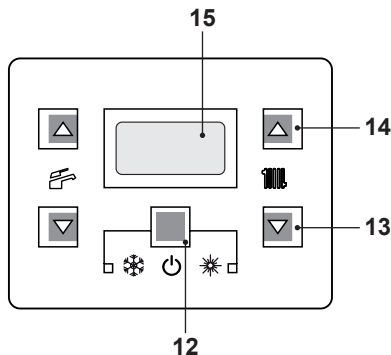

Fig. 8.31
- Enter the "programming mode" by sequentially pressing and holding in keys, 12 - 13 and then 14 (Fig. 8.31) for 10 seconds until the letters **Pr** that alternate with code **01** are displayed on the LCD display, indicating that "parameter 01" (Fig. 8.32) has been activated.
- Press keys 12 and 14 (Fig. 8.31) at the same time until the value of parameter 01 (73=**ADVANCE 25S** or 96=**ADVANCE 30S**) is displayed on the LCD display (Fig. 8.33).
- Press keys 12 and 13 (Fig. 8.31) at the same time to exit without changing the value (return to the parameters list Fig. 8.32).
- Press sequentially keys, 12 - 13 and then 14 (Fig. 8.31) and hold in for 10 seconds to exit the "programming mode".